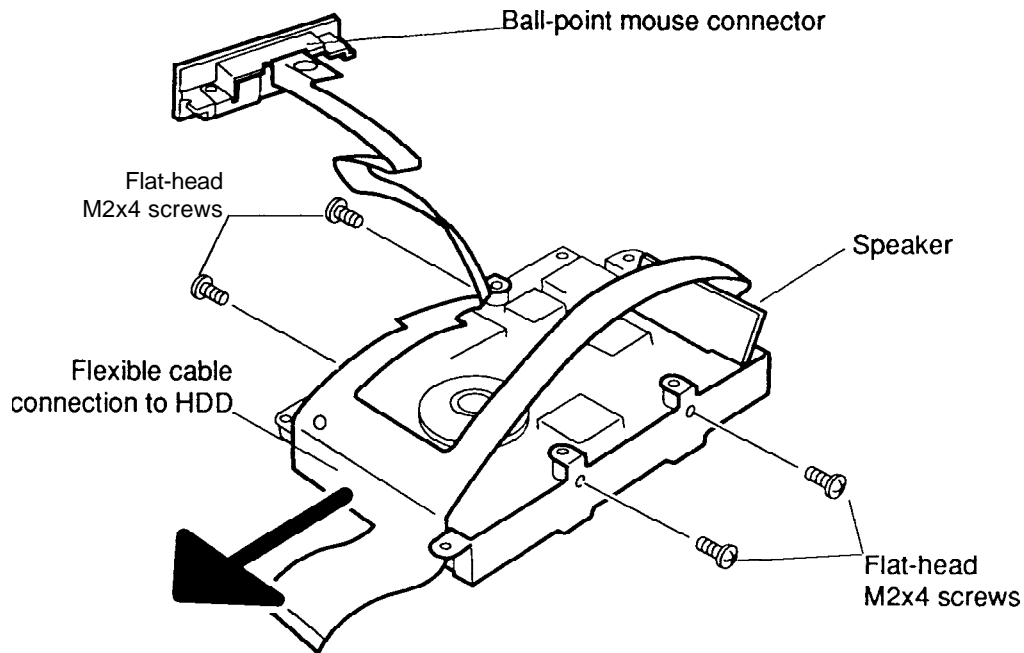

Figure 4-16 Removing the HDD Bracket and Speaker/Ball-point Connector
12. Remove **four flat-head M2x4 screws** securing the **bracket** to the HDD and slip off the bracket (Figure 4-16).
1. Secure the **bracket** with the **four flat-head M2x4 screws** (Figure 4-16).
2. Connect the **flexible cable** to the HDD (Figure 4-16).